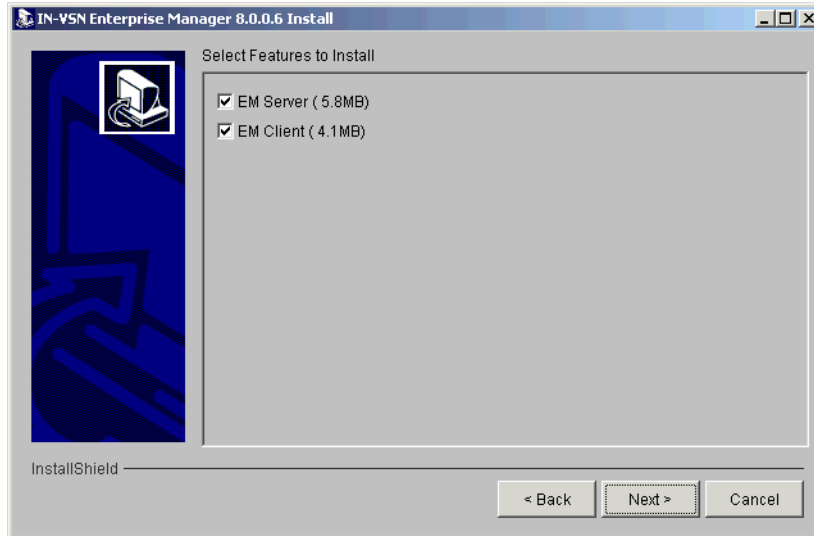

Figure 3-7 Choosing the IN-VSN parts
4. Choose which part of the IN-VSN software should be installed, server and/or client, as shown in Figure 3-7.